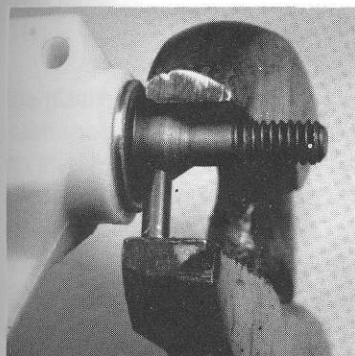

**Fig. 99**
□ **Figs. 99, 100 & 101** There are two different techniques commonly used to install the #6375 roll pins. For both techniques, squeeze one end of the roll pin with a pair of pliers. The first technique requires you use a needlenose pliers (fig. 99) or slip joint pliers (fig. 101) to squeeze the roll pin into the axle. If you are unable to use your pliers you can use a vice and hammer as shown in fig. 100: Set the axle on your vice. Hold the roll pin aligned over the hole in the axle with your pliers. Lightly tap the pin into the axle until the pin is evenly spaced.